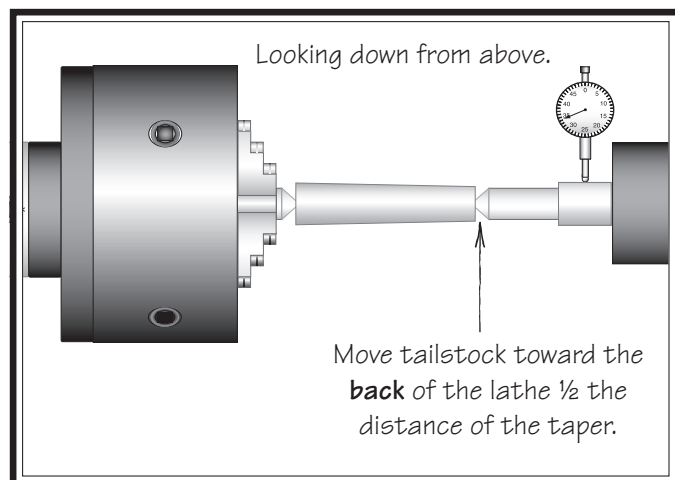

Figure 47. Adjust tailstock away from the operator.
- If the test stock is *thinner* at the tailstock end, move the tailstock toward the *back* of the lathe $\frac{1}{2}$ the distance of the amount of taper (see **Figure 47**).